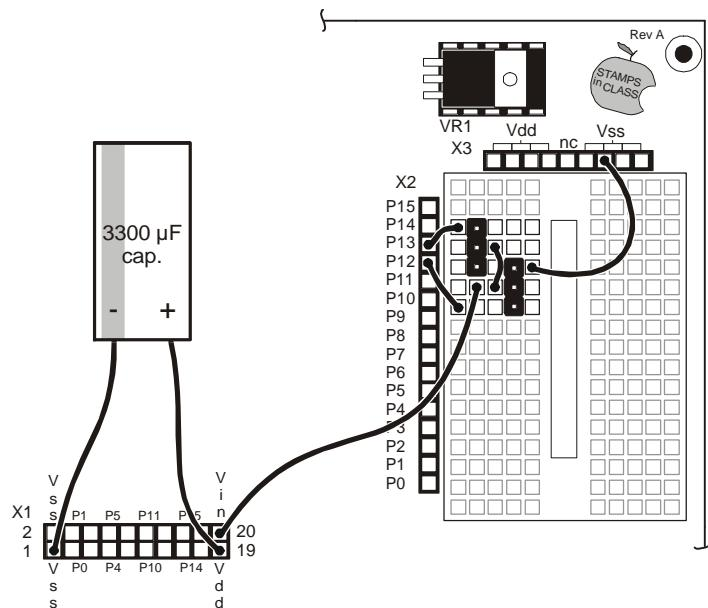

Figure D.2: Servo Port Wiring.
The servo ports we are going to make will function as replacements for servo Ports 12 and 13 on the Board of Education Rev B. Once these servo ports are built and tested, you can leave them plugged in every activity from Chapter #1, Activity #6 through the end of the text (Chapter #6, Activity #3). With this in mind, leaving the servo ports on your BOE Rev A connected and not disassembling them between activities is recommended. Any activity that features a schematic with servos connected to I/O pins P12/P13 will work fine with this servo port design shown in Figure D.2. Likewise, whenever a picture shows servos plugged into the BOE Rev B's servo ports 12 and 13, Figure D.2 is the BOE Rev A substitute for the servo port wiring.
Next connect the ports to the Board of Education as shown in Figure D.2.
- Insert the three-pin headers into the breadboard and use jumper wires to connect Vin, Vss, P12 and P13 to the sockets on the white breadboard EXACTLY AS SHOWN in Figure D.2.